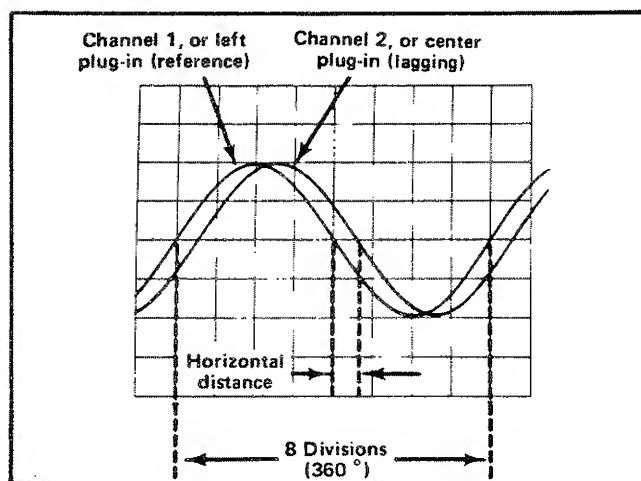
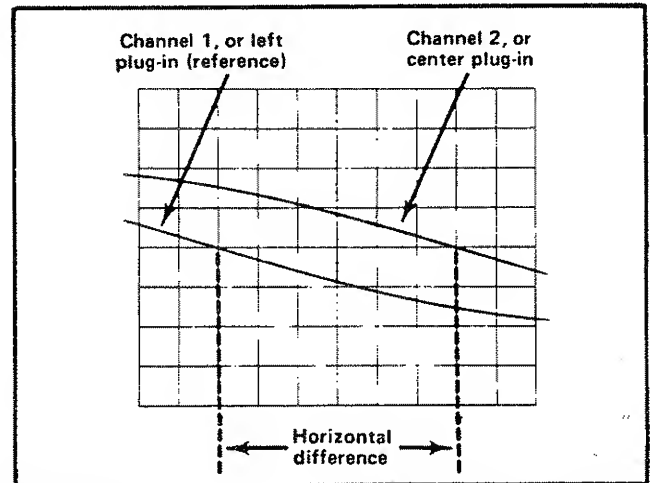

Fig. 1-11. Measuring phase difference.
Fig. 1-12. High-resolution phase difference measurement with increased sweep rate.
9. Turn the variable Sec/Div control until one cycle of the reference signal (Channel 1, or left plug-in) occupies exactly eight divisions between the second and tenth vertical lines of the graticule (see Fig. 1-11). Each division of the graticule represents 45° of the cycle ($360^\circ \div 8 \text{ divisions} = 45^\circ/\text{division}$). The sweep rate can be stated in terms of degrees as $45^\circ/\text{division}$.
EXAMPLE: Assume a horizontal difference of 0.6 division with a sweep rate of $45^\circ/\text{division}$ as shown in Fig. 1-11. Use the formula:
EXAMPLE: If the sweep rate were increased 10 times with the magnifier, the magnifier sweep rate should be $45^\circ/\text{division} \div 10 = 4.5^\circ/\text{division}$. Fig. 1-12 shows the same signals as used in Fig. 1-11, but with the Swp Mag button pushed in. With a horizontal difference of six divisions the phase difference is: